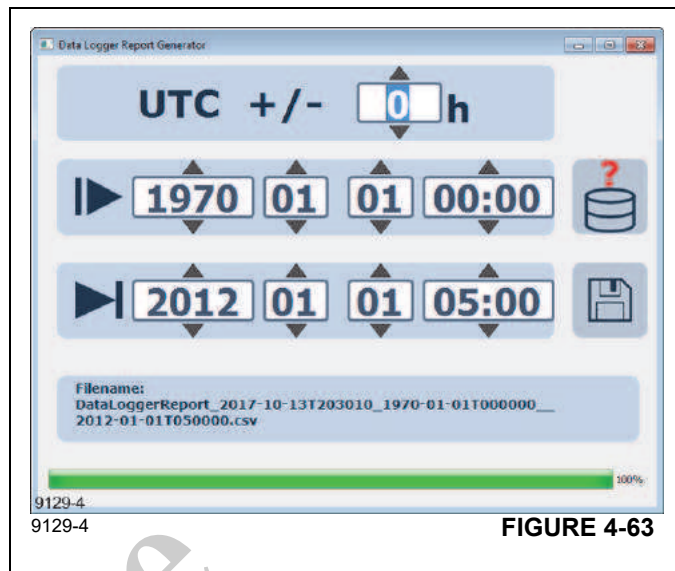

FIGURE 4-63
- Select the save icon and choose the directory to save the report to (Figure 4-63).